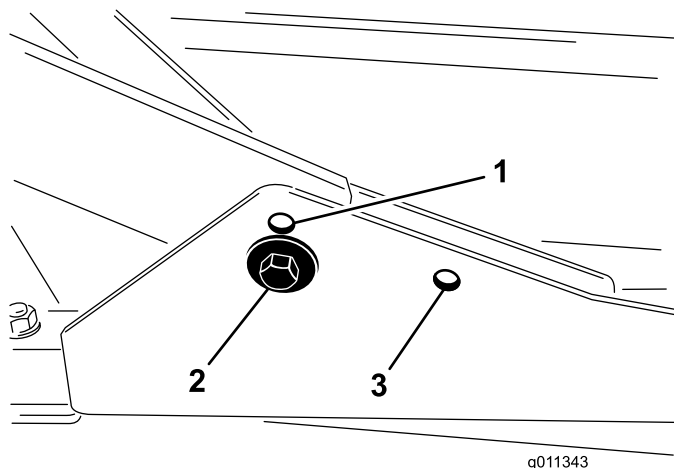

Figure 2
1. For heights of cut in the 3/4 to 3 inch (2 to 7.6 cm) range, mount the front carrier frames in the lower front mounting holes (Figure 2).
For all heights of cut, mount the rear cutting deck in the rear mounting holes (Figure 2).
2. For heights of cut in the 2-1/2 to 4 inch (6.3 to 10 cm) range, mount the front carrier frames in the upper front mounting holes (Figure 2).